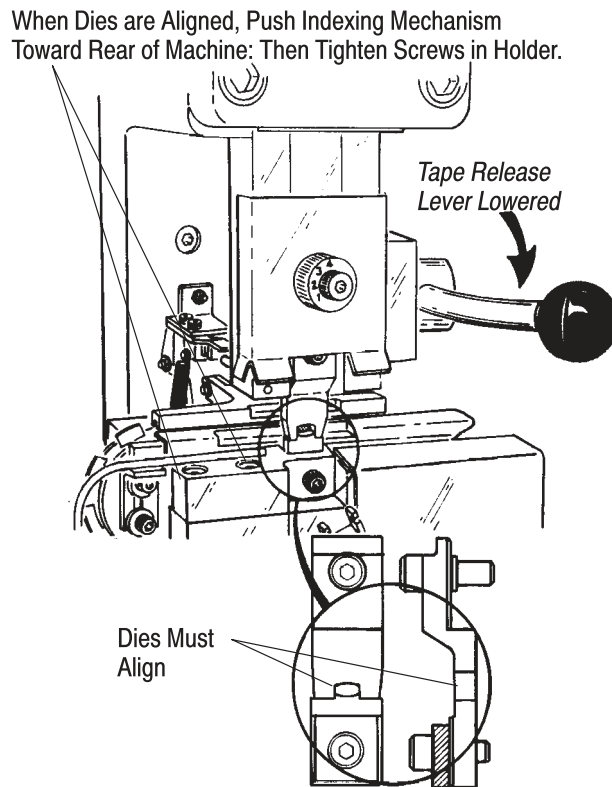

Figure 27
19. Hand-cycle the machine, as described in Section 4, until the dies begin to mate, then shift the lower tooling holder as needed to align dies as shown in Figure 27.